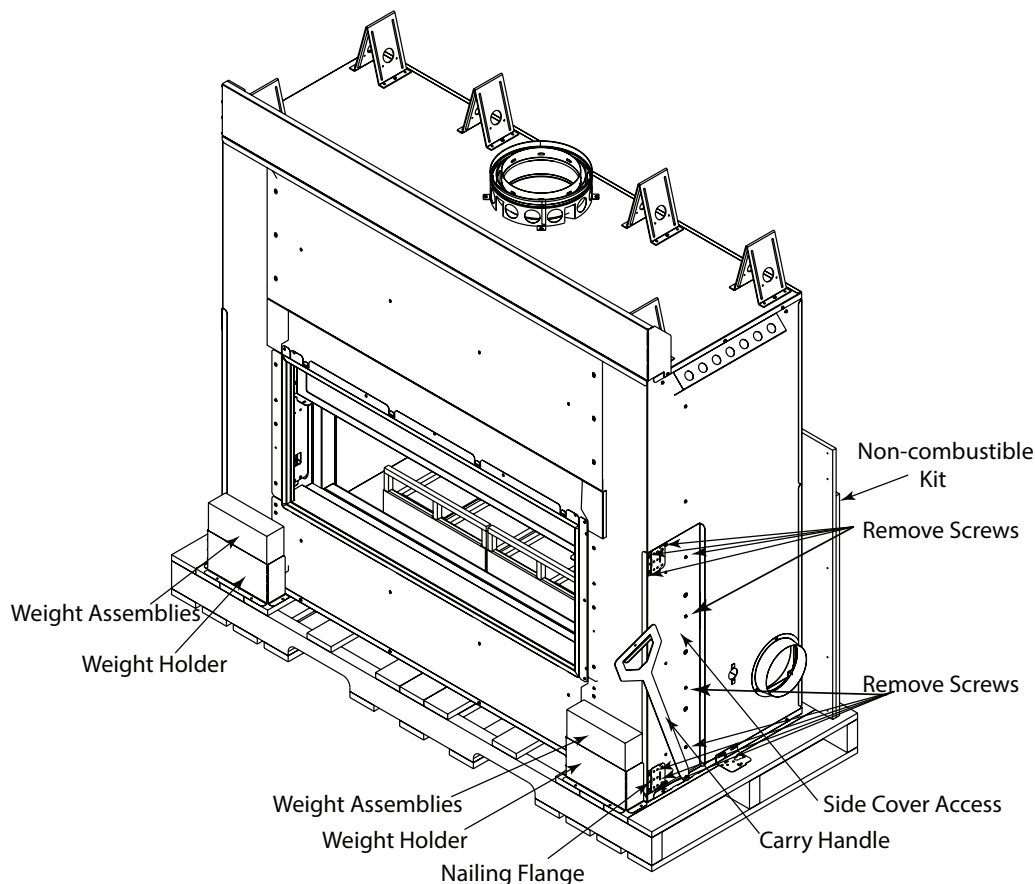

Figure 2.6
- ii. Lay the nailing flanges aside. See Figure 2.6.